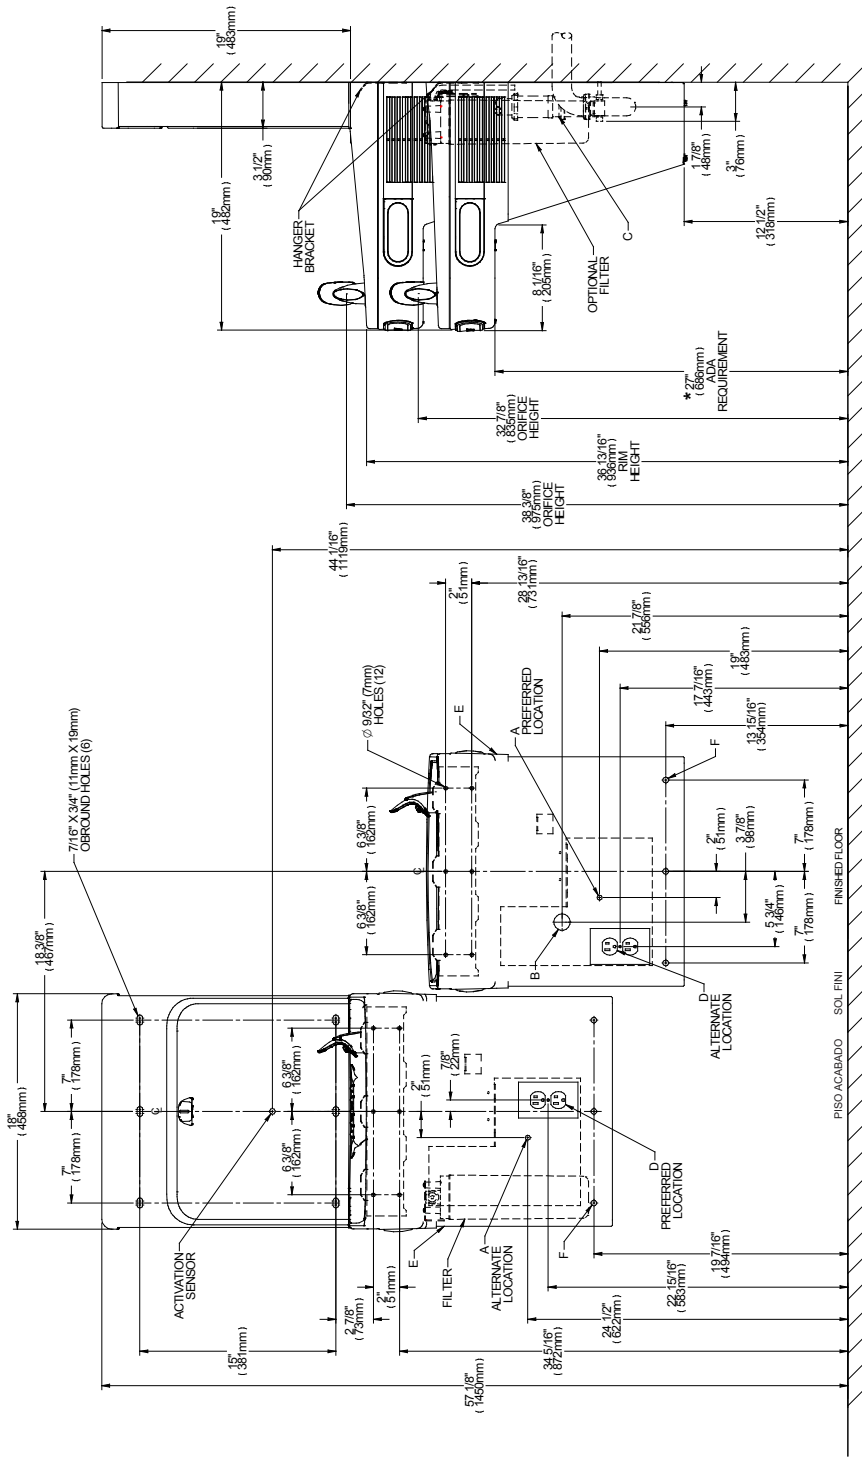

FIG. 4
- 4) Hang only the refrigerated cooler on the hanger bracket. Be certain hanger bracket is properly in the slots on the cooler backs as shown in Figures 1 (Pg. 2), 2 (Pg.3), 3 (Pg. 4), and (Fig. 4, Pg. 5).
- 5) Remove the four (4) screws holding the lower front panel at the bottom of each cooler. Remove the front panel by pulling straight down and set aside.